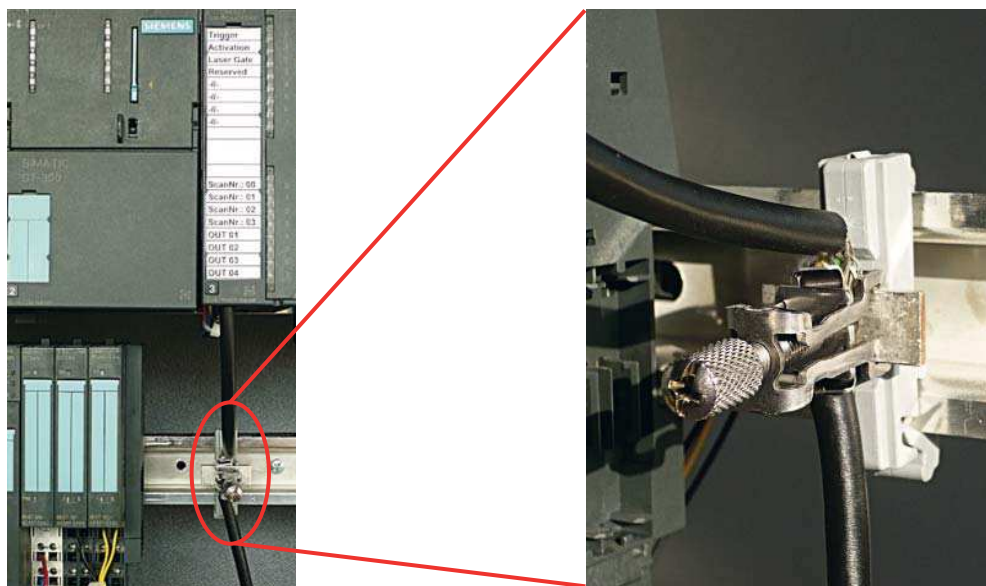

Figure 7.3: Connecting the cable shielding to the PLC
- ✚ Clamp the shield flat to FE in the PLC (see figure 7.3).